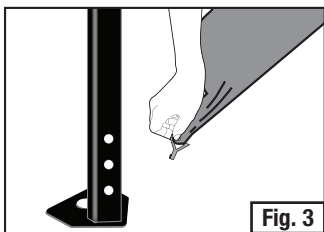

Fig. 3
2. Stretch sidewall downward until taut, insert hooks at the two bottom corners of sidewall into holes on the lower part of frame posts. (Fig. 3)